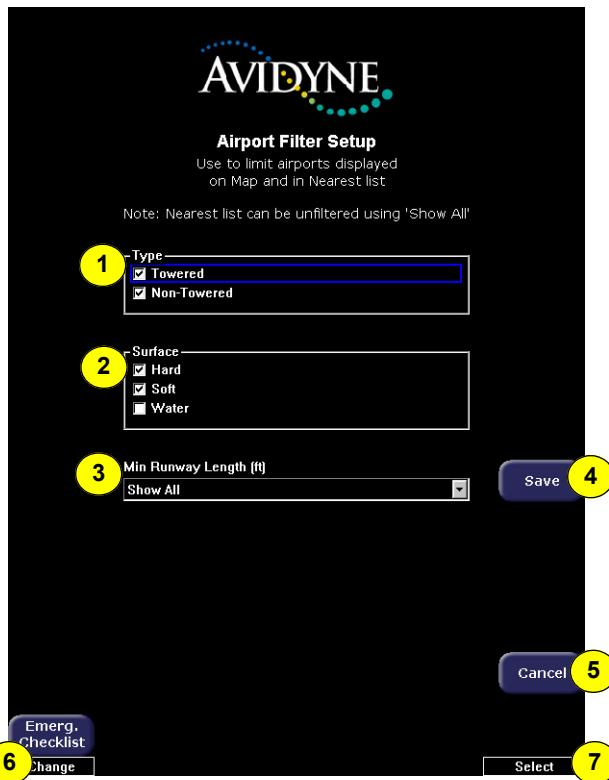

Figure 8.2 Airport Filter Setup Page
- 5) **FILTER**—Press to see all airport types (SHOW ALL) or only the airport types as defined on the Airport Filter Page (ON) (see Section Figure 8.2, "Airport Filter Setup Page" on page 67). *Filter* is only visible on the Nearest Airport Pages.